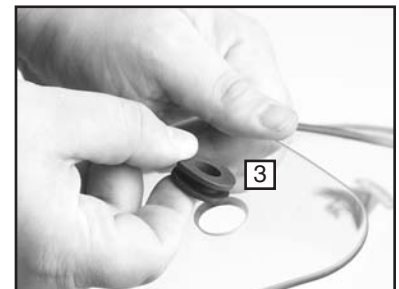

Figure 2
4. Install one Grommet (3) into each hole in windscreen. **Figure 2**